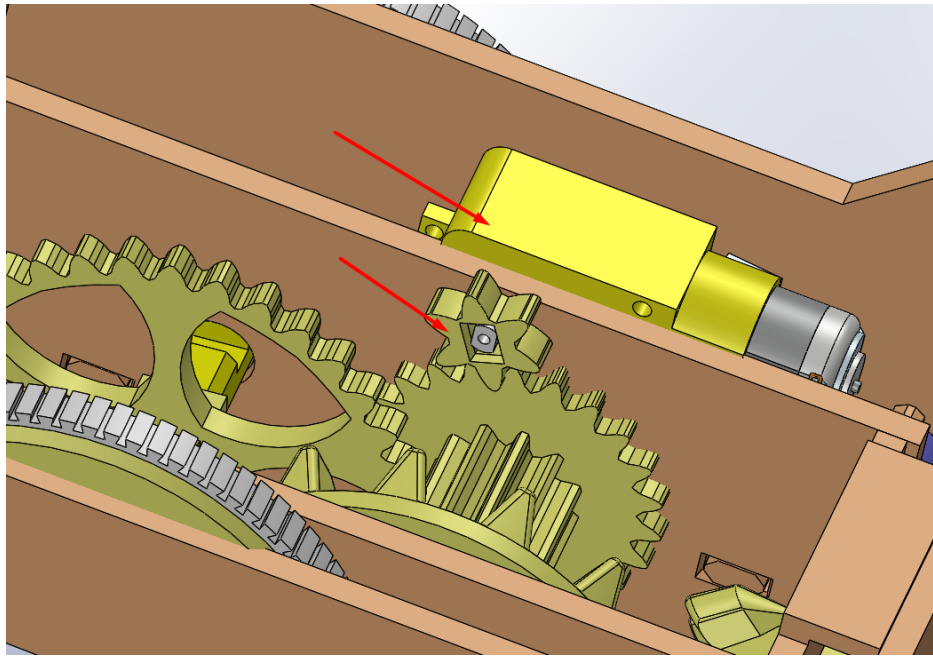

FIGURE 20
STEP 16: We take the tiny gear numbered 19, and push it into the shaft of the motor as seen in figure 20.